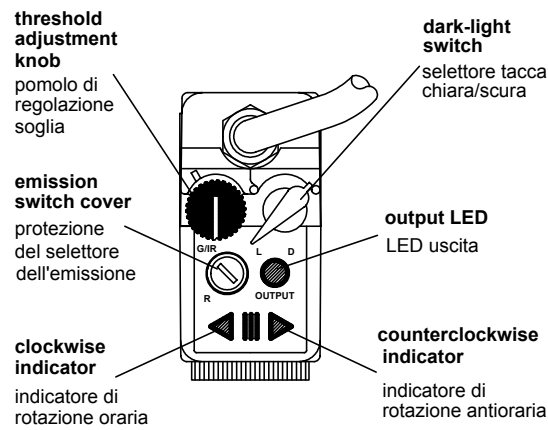

Figure 7
1. Turn the light/dark selector switch (indicated in fig.7) to the dark mark detection side (D).
3. Turn the threshold adjustment knob until the output LED is ON (circular red LED fig.7). The triangular red LEDs indicate the direction of rotation.
1. Porre il selettore per tacca chiara/scura (indicato in fig.7) nella posizione di tacca scura (D).